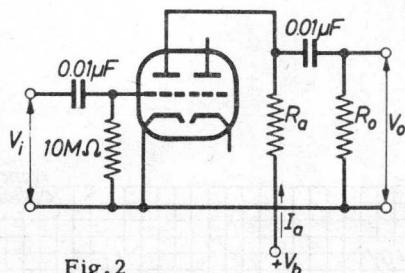

Fig. 2
A.F. amplifier Fig. 2 see page 9 Input source resistance = 100  $\Omega$